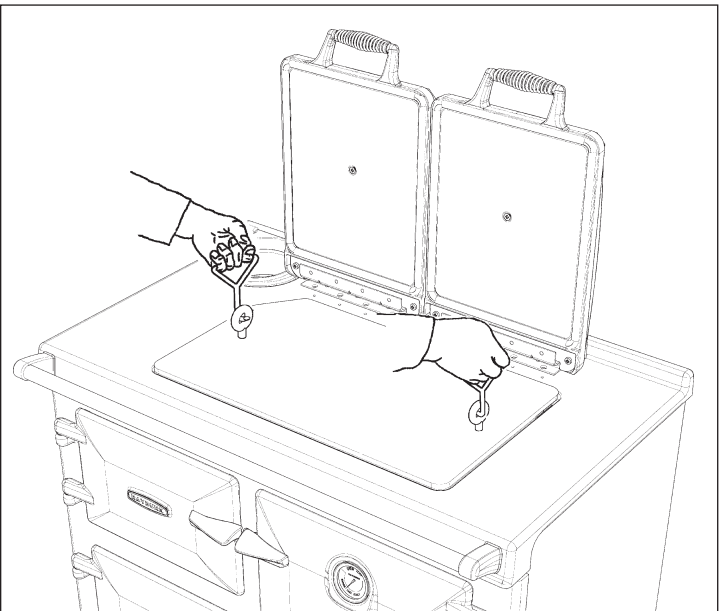

Fig. 8 - Rayburn 680KCD C/F shown
2. Remove stack of 5 sheet metal baffles, check assembly and replace as shown in Fig. 8.